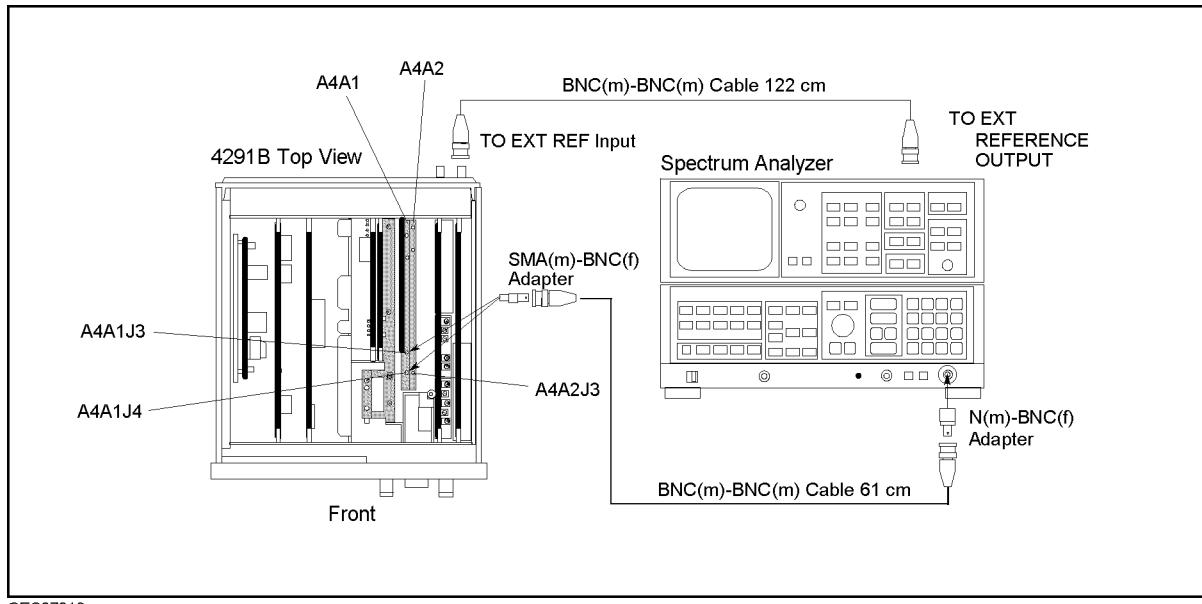

Figure 7-13. 1st LO OSC Signal Test Setup
- Remove the "C" semi-rigid cable from A4A1J3, and connect the equipment as shown in Figure 7-13. In this procedure, connect the spectrum analyzer input to A4A1J3.
- a. Remove the "F" semi-rigid cable from A4A1J4 and A4A2J3, and connect the equipment as shown in Figure 7-13. In this procedure, connect the spectrum analyzer input to A4A1J4.